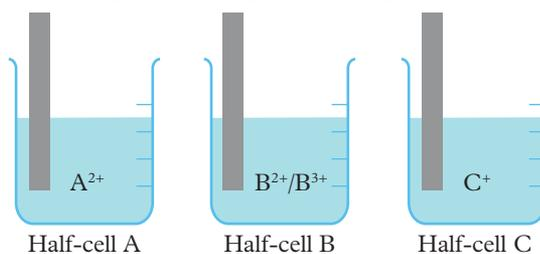

FIGURE 1 Three half-cells
- Three half-cells, A, B and C, were constructed from unknown solutions according to the diagrams in Figure 1.